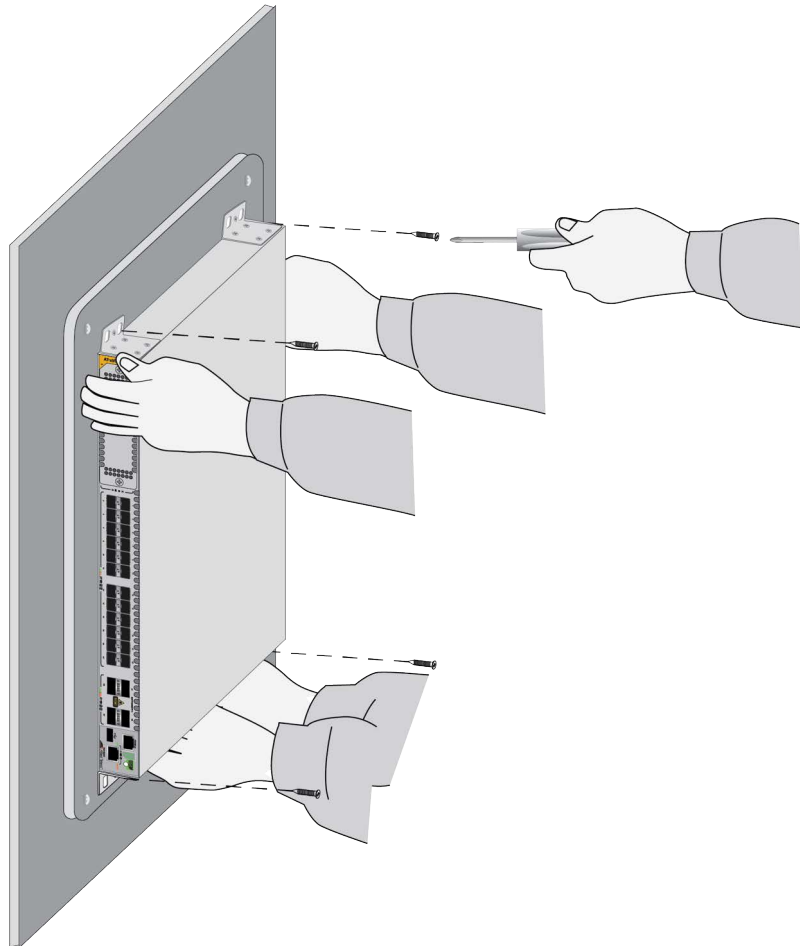

Figure 64. Attaching the Switch to the Plywood Base
3. After attaching the brackets to the side of the switch, have two people hold the switch on the plywood base on the wall while you secure it with the four provided screws. Refer to Figure 64.